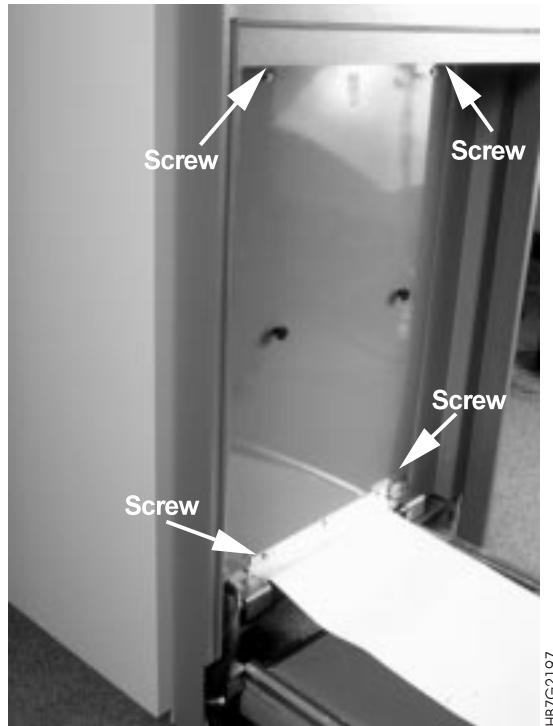

Figure 297. Paper Supply Back Cover Screws
- 15 Remove the four Allen screws located in the corners of the back cover of the paper supply, as shown in Figure 297 on page 359.